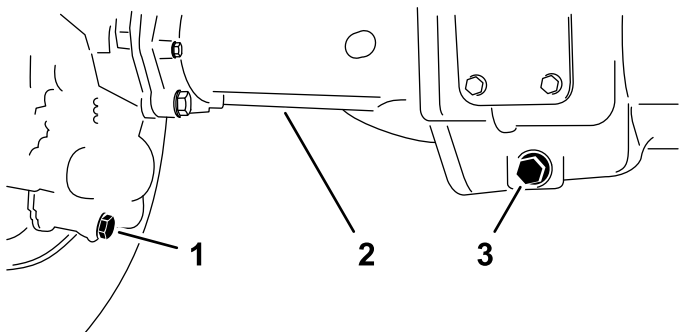

Figure 97
2. Clean the area around the 3 drain plugs (Figure 97)—1 at each bevel-gear case (outboard of the axle housings) and 1 in the center-gear case.
3. Remove each drain plug (Figure 97) and allow the oil to drain into a drain pan.